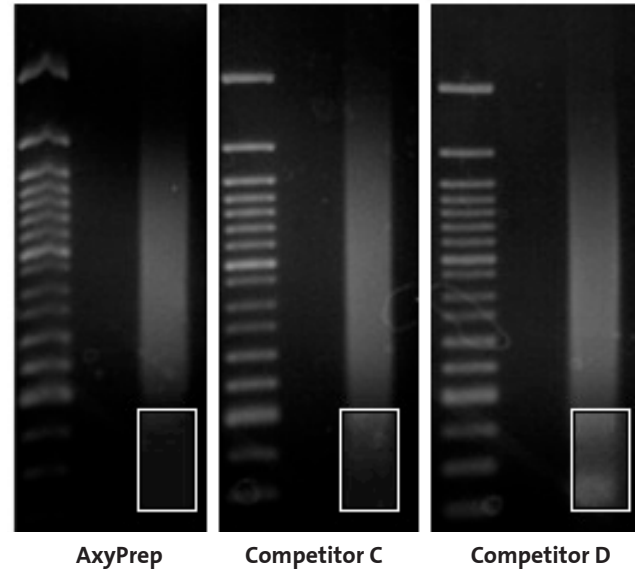

Figure 5. Separation of Magnetic Beads in Microplate and Tube Format
- ▶ Axygen AxyPrep IMAG MSDs utilizes strong magnets for faster separation, in less than 30 seconds (Figure 5)